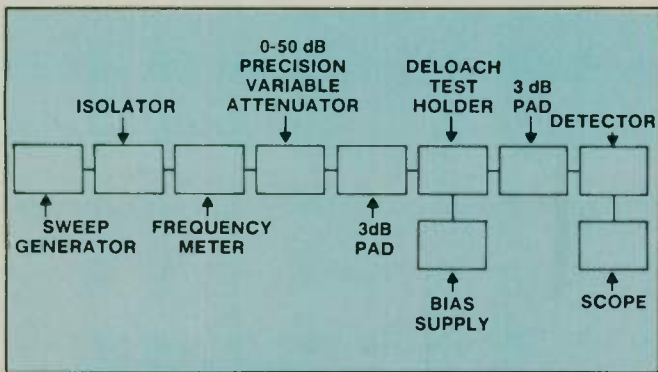

Fig. 6 Test set-up for DeLoach measurement.
The test setup for the actual measurement is shown in the block diagram of Figure 6. It is very important to keep the incident power on the test holder below about 200 microwatts so as not to self bias the varactor. GaAs varactors, since they do not store charge, are good RF rectifiers and will readily self bias when pumped with an RF signal. The step by step measurement procedure is as follows:
1. Using the test set of Figure 6 (in the appropriate waveguide band) obtain a zero loss reference on the scope with the diode under test removed from the circuit and with the holder choke in place. The generator should be adjusted to sweep over the whole waveguide band.